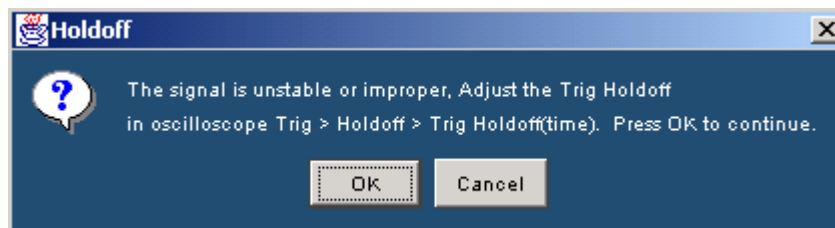

Figure 3-154: Holdoff message box
1. Select **Trig > Holdoff** from the oscilloscope interface as shown in Figure 3-154.